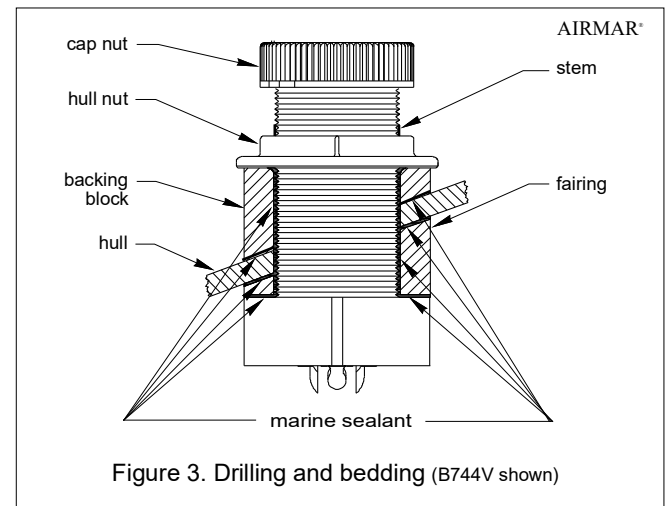

Figure 3. Drilling and bedding (B744V shown)
1. Drill a 3mm or 1/8" pilot hole perpendicular to the waterline from inside the hull (see Figure 3). If there is a rib, strut, or other hull irregularity near the selected mounting location, drill from the outside. If the pilot hole is drilled in the wrong location, drill a second hole in a better location. Apply masking tape to the outside of the hull over the incorrect hole and fill it with epoxy.
1. Apply a 2mm (1/16") thick layer of marine sealant over the surface of the multisensor housing that will contact the fairing (or hull if no fairing is used) and up the stem, 6mm (1/4") higher than the combined thickness of the fairing, hull, backing block, and hull nut (see Figure 3). This will ensure there is marine sealant in the threads to seal the hull and hold the hull nut securely in place.
3. Apply a 2mm (1/16") thick layer of marine sealant to the side of the fairing (if used) that will contact the hull (see Figure 3).
1. From outside the hull, push the stem of the multisensor housing (with the fairing in place if used) through the mounting hole using a twisting motion to squeeze out excess sealant (see Figure 3). If an Airmar fairing is used, **be sure** the button on the fairing is mated with the recess in the multisensor, the arrow on the fairing is pointing forward. **Take care to align the assembly parallel to the centerline of the boat** (see Figure 5).
2. From inside the hull, slide the backing block (if used), hull nut, and cap nut along the cable. Slide the backing block onto the stem and seat it firmly against the hull. Screw the hull nut in place. Tighten it with slip-joint pliers (see Figure 3).